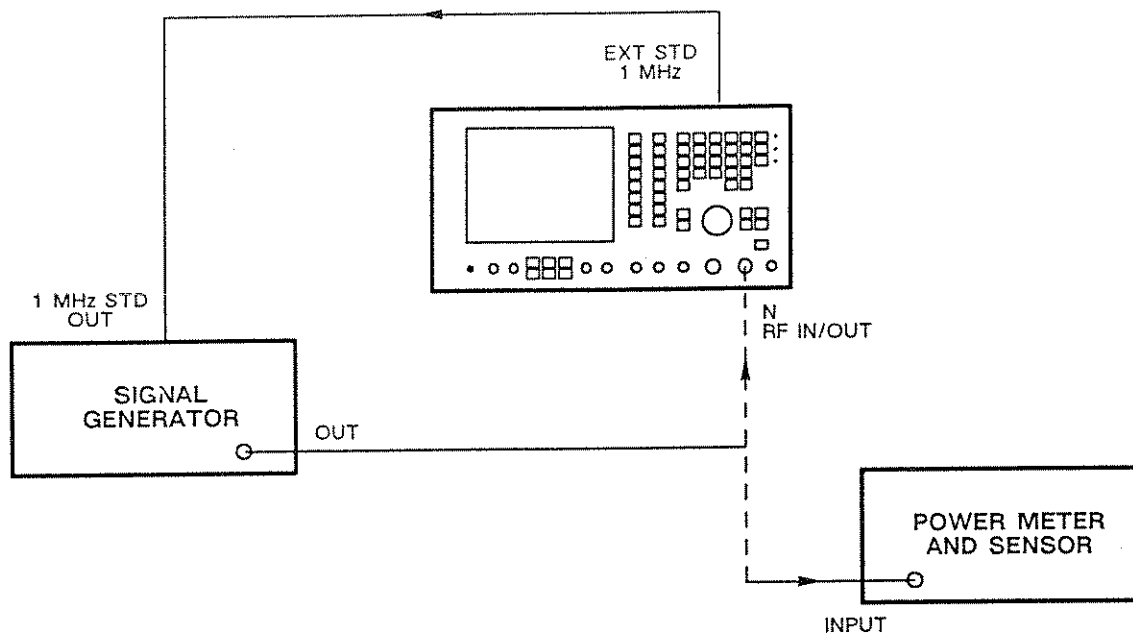

Fig. 6-6 Test equipment connections for modulation meter input sensitivity
- (1) Connect the signal generator 1 MHz standard output to the EXT STD 1 MHz socket. Connect the power meter through its sensor to the signal generator variable output. See Fig. 6-6.
- (2) On the 2955B, set the mode to TRANSMITTER TEST, MOD to FM, FILTER to 0.3-3.4 kHz BAND PASS and RF IN/OUT to N.
- (3) Set the signal generator carrier frequency to 400 MHz, modulation level to 10 kHz FM and modulating frequency to 1 kHz.
- (4) On the signal generator, adjust the RF level to give a reading of 5 mW on the power meter.
- (5) Transfer the signal generator variable output to the RF IN/OUT N socket.
- (6) On the modulation meter, check that the reading is 10 kHz.
- (7) On the 2955B, set the MODE to DUPLEX test and SELECT to ONE PORT.
- (8) Transfer the signal generator variable output to the power meter.
- (9) Repeat (3) to (6) except that, on the signal generator, adjust the RF level to give a reading of 20 mW on the power meter.